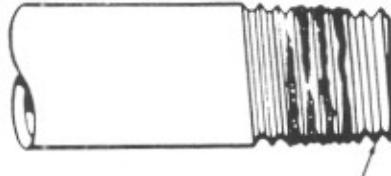

Figure 5. Pipe Compound Application
- Prior to installation, apply pipe compound to all male threads as shown in Figure 5.